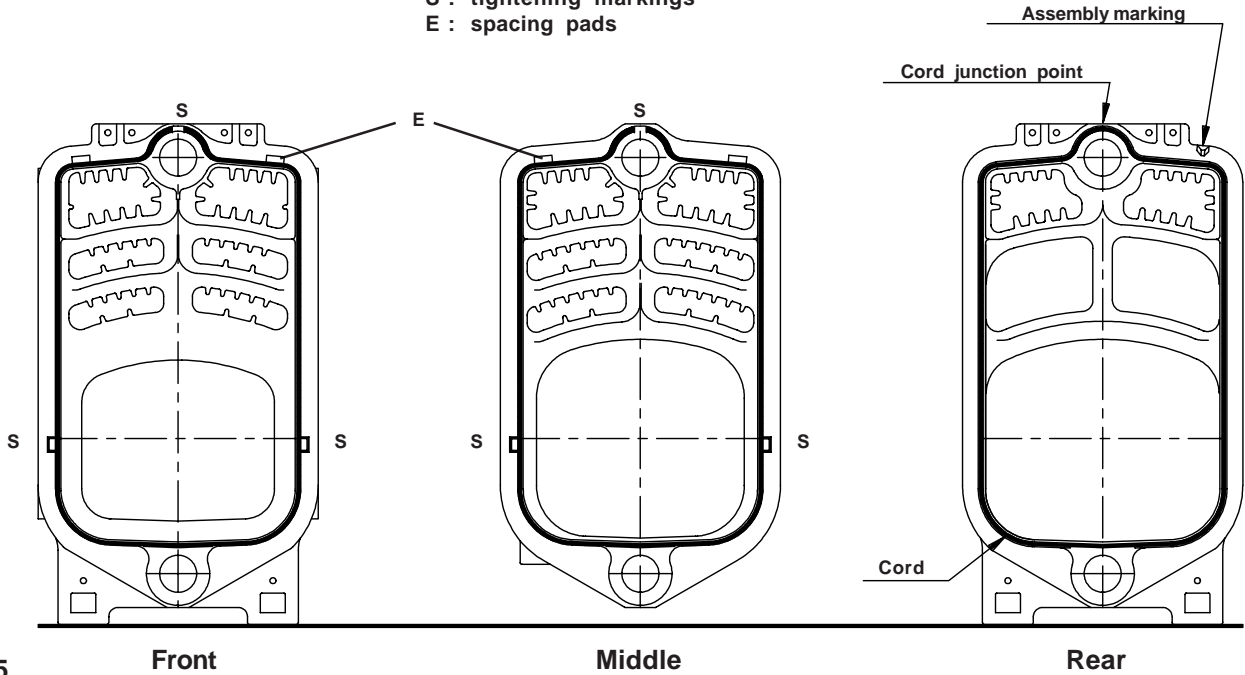

Fig. 5
NOTE: If it were necessary to dismantle one of the boiler's sections, and to avoid damaging the leaktightness gorges, it is imperative, when dismantling the sections, to place the chisel at the level of the spacing pads (E) provided in the upper part (see figure 5).